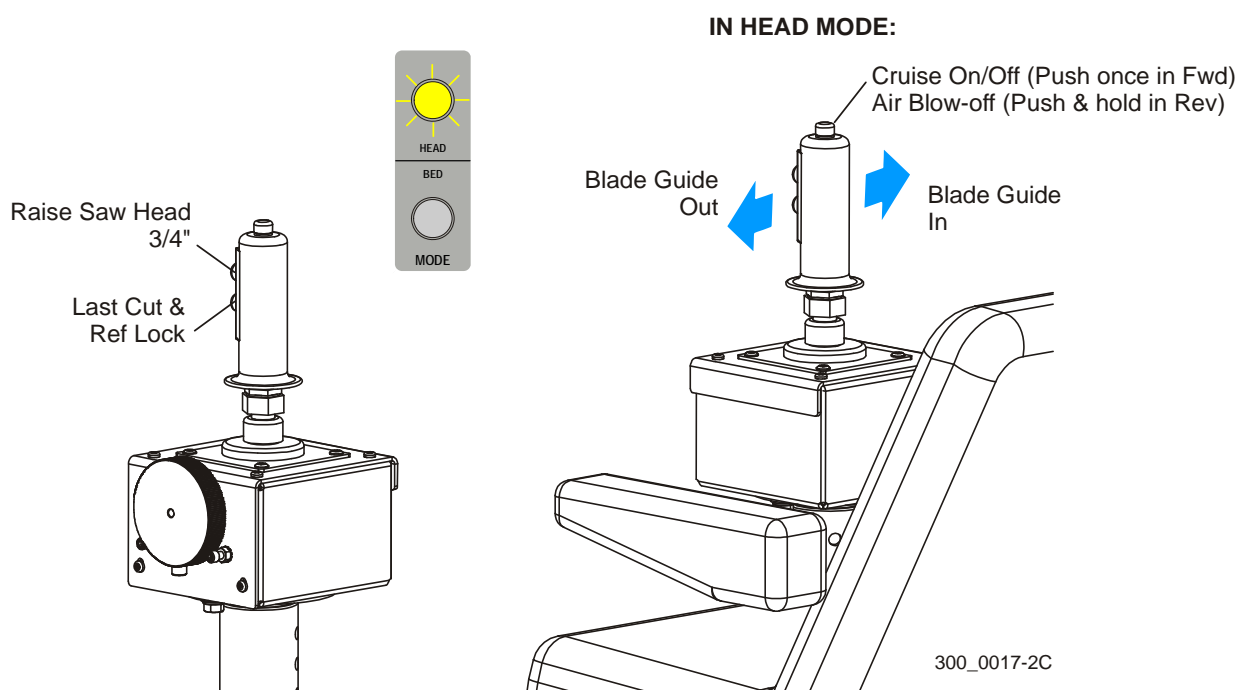

FIG. 4-5
**See Figure 4-5.** In BED mode, the joysticks control the log handling functions. Push the top button on the left joystick to change to bed mode. Push the right joystick forward to lower the log loader, pull it back to raise the log loader. Push the right joystick right to raise the log turner and side supports. Push it to the left to lower the turner and side supports.